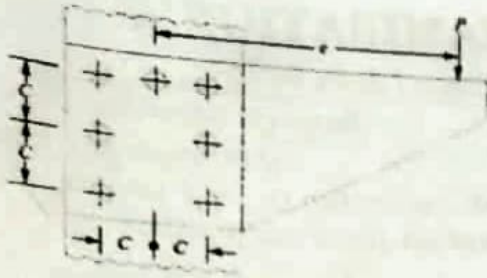

Figure 1
- Q6 An eccentrically loaded lap riveted joint is to be designed for a steel bracket as shown in Figure 1. The bracket plate is 25 mm thick. All rivets are to be of the same size. Load on the bracket $P=50\text{ kN}$; rivet spacing $C=100\text{ mm}$ load arm $e=400\text{ mm}$. Permissible stress is 65 MPa and crushing stress is 120 MPa. Determine the size of the rivet to be used for the joint. (15)